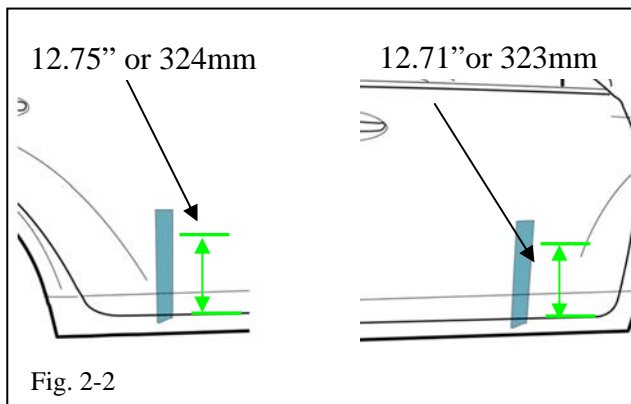

Fig. 2-2
- (b) Mark the tape 12.71" (323mm) up at the front and 12.75" (324mm) at the rear. See Fig. 2-2.